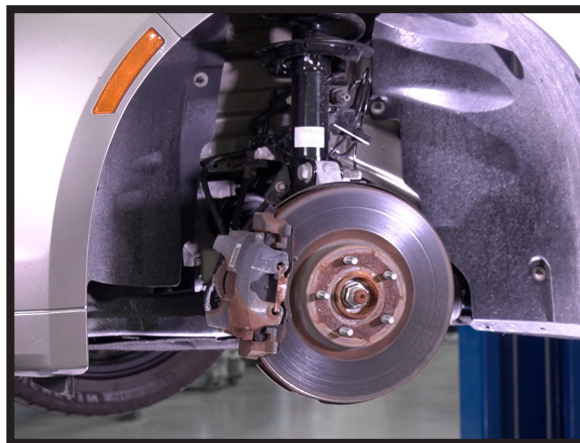

FIGURE 1
1. RAISE VEHICLE AND REMOVE THE FRONT LEFT WHEEL. (FIGURE 1)